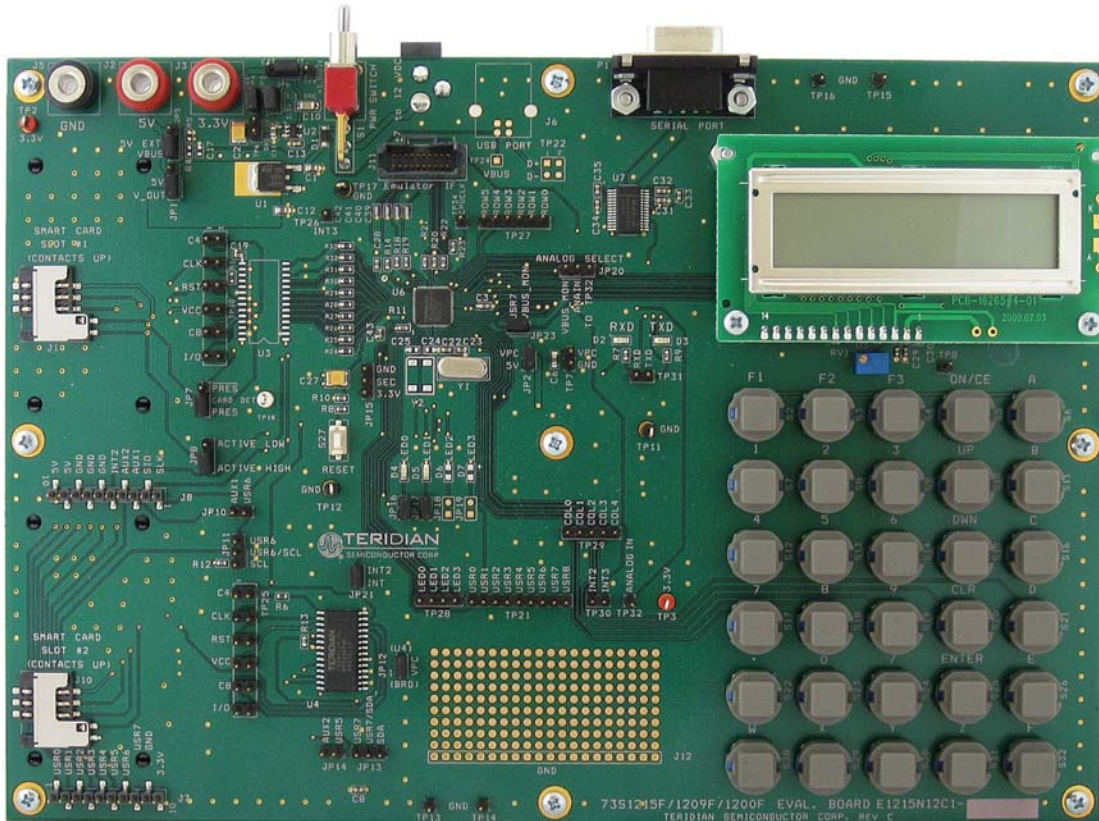

Figure 1: 73S1209F Evaluation Board
- 73S1209F Evaluation Board: 4-layer, rectangular PWB as shown in Figure 1 (identification number E1215N12C1 Rev C), containing the 73S1209F with the preloaded turnkey program PCCID.
The 73S1209F Evaluation Board (see Figure 1) includes the following: